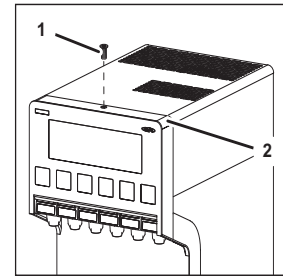

Fig. 7
1. Remove the fastening bolt (Fig. 7/1) from the promotional panel (Fig. 7/2).